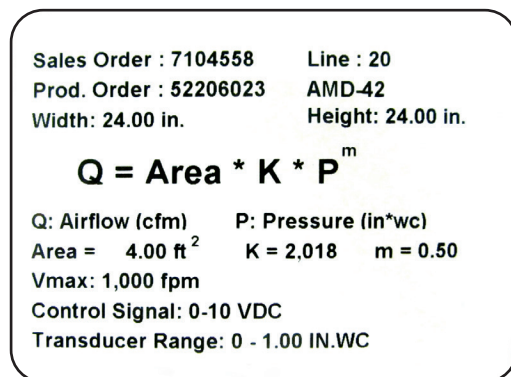

Figure 1 - Label affixed to AMS/AMD that lists the V_{max} and damper area.
- **The unit’s K & M Values** – damper specific constants used to calculate airflow. These values are set at the factory and can also be found on the label affixed to the AMD/AMS (see Figure 1)